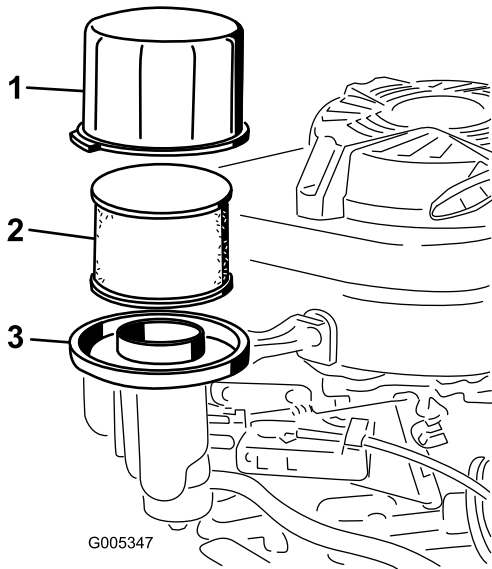

Figure 22
3. Remove the cover and clean it thoroughly (Figure 22).
4. Remove and the foam pre-cleaner and the paper-air filter from the air-cleaner base (Figure 22)